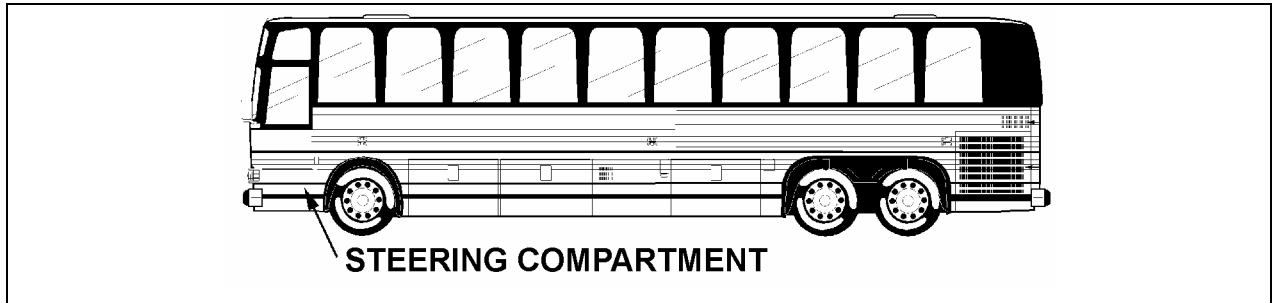

FIGURE 2 : STEERING COMPARTMENT
1. Open the steering compartment door (figure 2).